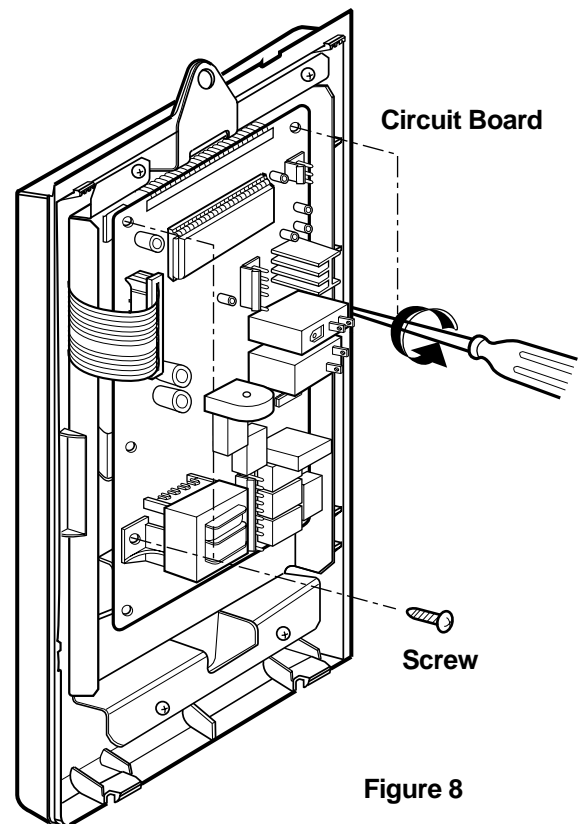

Figure 8
- (2) Remove the control panel with pushing it upward.
- (3) Remove the three connectors (CN1, CN2, CN4) and wire leads (Relay) from the circuit board.
- (4) Remove 5 screws securing the circuit board. (Figure 8)
- (5) Remove the FPC connector from the terminal socket following "HOW TO REMOVE THE FPC CONNECTOR" on the next page.
- (6) Remove the circuit board from the control bracket carefully.